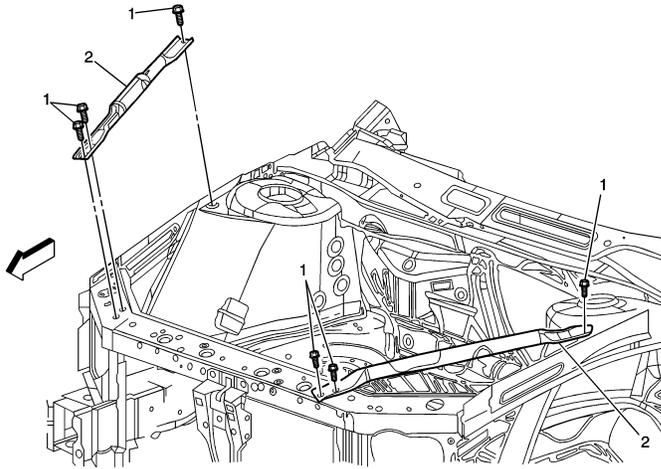

Fig. 2 Front fender upper diagonal brace removal
7. Install righthand front fender upper diagonal brace and bolts, **Fig. 2**. **Torque** bolts to 35 ft. lbs.